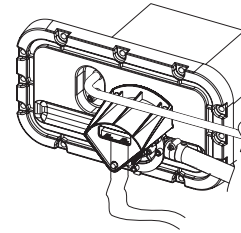

Fig. 14.d
1. remove the cover of the machine (hydraulic side) unscrewing the screws (Fig. 14.b);
2. remove the steam pipe from the upper pipe union of the cylinder (Fig. 14.c);
3. electronically disconnect the level sensor (Fig. 14.a, part. no. 3);
4. remove, from the cylinder cover, the pressure equalising pipe of the level control (Fig. 14.b, part. no. 1);
6. remove the cylinder ground screw (Fig. 14.b, part. no. 5);
7. if present, remove the external thermal lining (Fig. 14.b, part. no. 4);